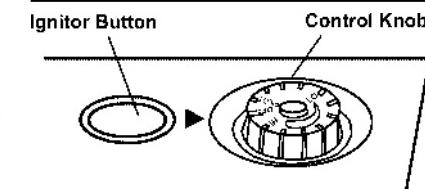

Figure 19 - Control Knob In The OFF Position
4. Wait five(5) minutes to clear out any gas. Then smell for gas, including near the floor. If you smell gas, STOP! Follow "B" in the safety information on the side of heater. If you don't smell gas, go to the next step.
5. Turn control knob counterclockwise  to the PILOT position. Press in control knob for five(5) seconds. (see Figure 19).
- NOTE:** If pilot goes out, repeat steps 3 through 7. This heater has a safety interlock system. Wait one(1) minute before lighting pilot again.
8. Turn control knob counterclockwise  to desired heating level. The main burner should light. Set control knob to any heat level between HI and LO. (see Figure 19)